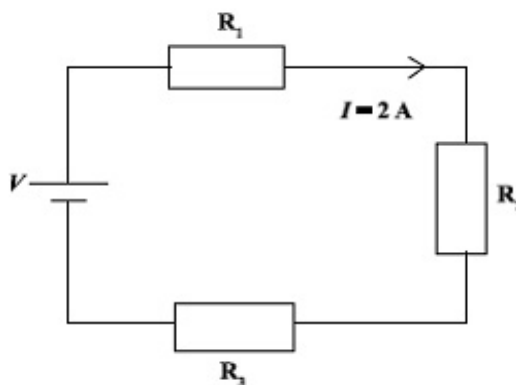

Fig. 3
- 3 (a) The current flowing through the circuit shown in Fig. 3 is $I = 2\text{ A}$.